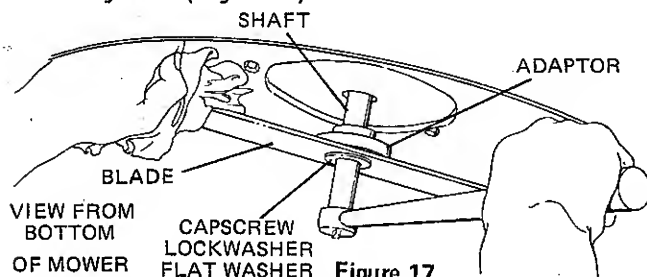

Figure 17
1. Do not attempt to remove the blade until you have the correct size box, socket or open end wrenches for the blade mounting bolts. (Figure 17)
3. Remove cap screw, lock washer and flat washer attaching blade to engine shaft and adaptor (Figure 17).